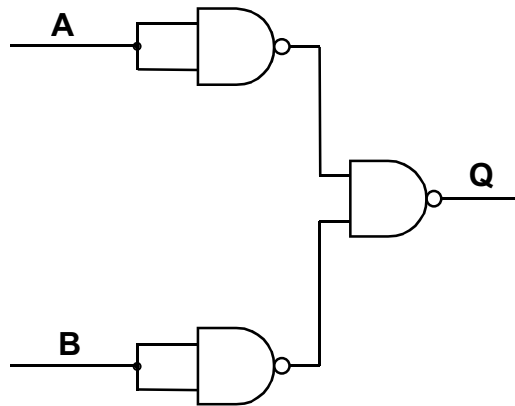

Fig. 9(a)
- 9 (a) An arrangement of three logic gates is shown in **Fig. 9(a)**.
- (i) Name the type of logic gate used in **Fig. 9(a)**. [1]